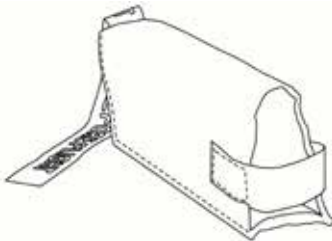

Figure 1-4. Protective Soft Case
1.4.1.7 Protective Soft Case. A protective soft case prevents personnel from inadvertent laser emission and provides physical protection for the unit during ground operations. A “Remove Before Flight” warning flag signals the ground crew to remove the protective soft case before take off, see Figure 1-4.
2.3.2 After Flight. When the GCP-2C is installed on the aircraft, but not in use (on the ground), cover it with the protective case (See Figure 1-4). Follow published directives for securing the laser.